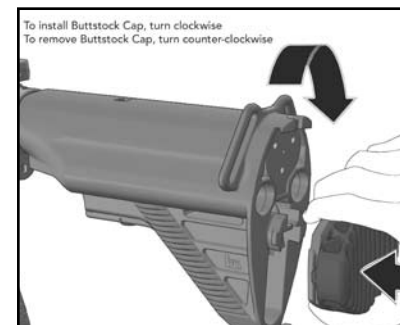

Fig. 33 – Removing the disassembly tool
- a. Rotate the recoil pad counter clockwise one quarter turn and separate the recoil pad from the buttstock. Remove the MR762A1 disassembly tool (Fig. 33, 34).